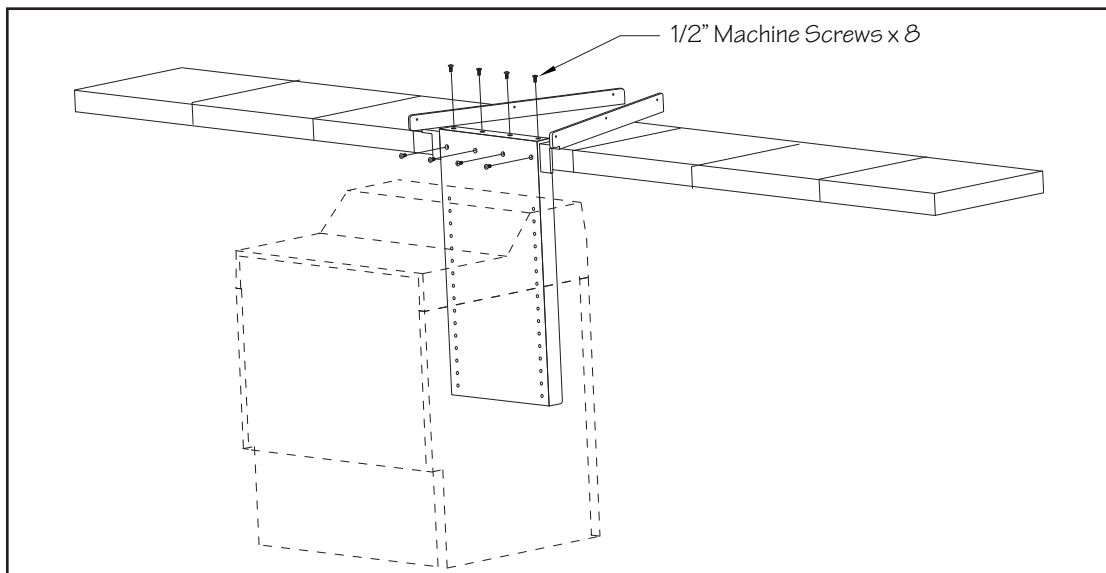

Fig. 9.2
- 9.3 This next step is best done with two people. Carefully lower the Fastlane into the pool. Align the holes in the bracket with the holes in the hose cover tray. Use the provided 1/2" screws to attach the top screws first and then the vertical screws next (total of 8 screws) (Fig 9.2).